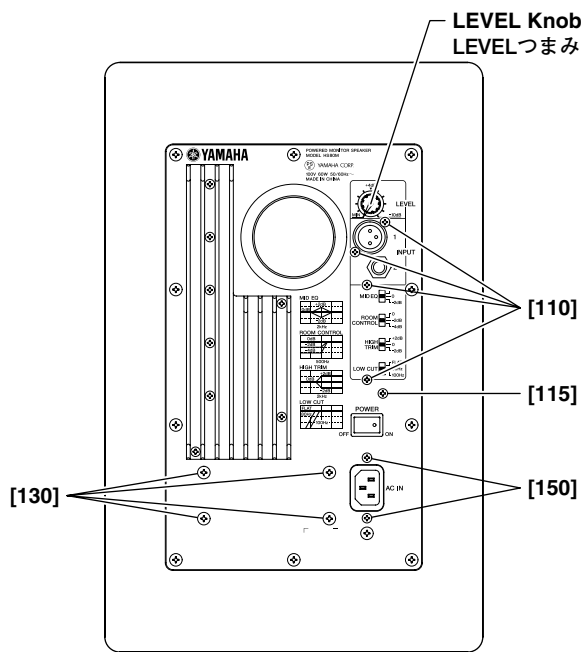

Fig. 3 (図 3)
- 5-2 Remove the four (4) screws marked [110] and the screw marked [115]. (Fig. 3)
- 5-3 Remove the LEVEL knob, the hexagonal nut [E] and washer [D]. (Fig. 3, Photo. 5)
- 5-5 Remove the three (3) screws marked [G] and remove the case PWB. (Photo. 3)
- 5-2 [110]のネジ4本と[115]のネジ1本を外します。(図3)
- 5-3 LEVELつまみと[E]の六角ナットおよび[D]のワッシャを外します。(図3、写真5)
- 6-2 Remove the four (4) screws marked [130]. The TRANS circuit board with the power transformer can then be removed. (Fig. 3)
- 7-2 Remove the two (2) screws marked [150]. (Fig. 3)
- 6-2 [130]のネジを4本外し、TRANSシート(電源トランス付)を外します。(図3)
- 7-2 [150]のネジを2本外します。(図3)